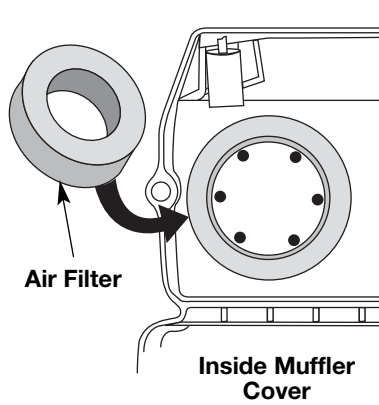

Fig. 15
2. Turn cover over and look inside to locate the air filter. Remove the air filter from inside the air filter/muffler cover (Fig. 15).
6. Replace the air filter inside the air filter/muffer cover (Fig. 15).